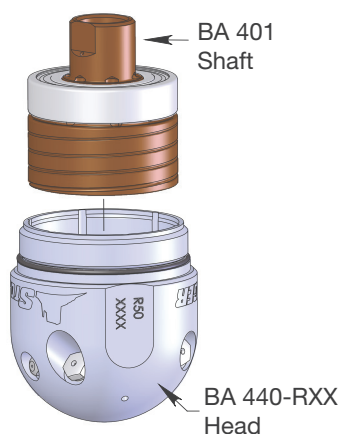

Figure 6: for Step 5
5. Remove Shaft (BA 401) from Head. Pliers or vice grips may be necessary to grab the Shaft as viscous fluid and tool seals can cause a suction force (see Figure 6).